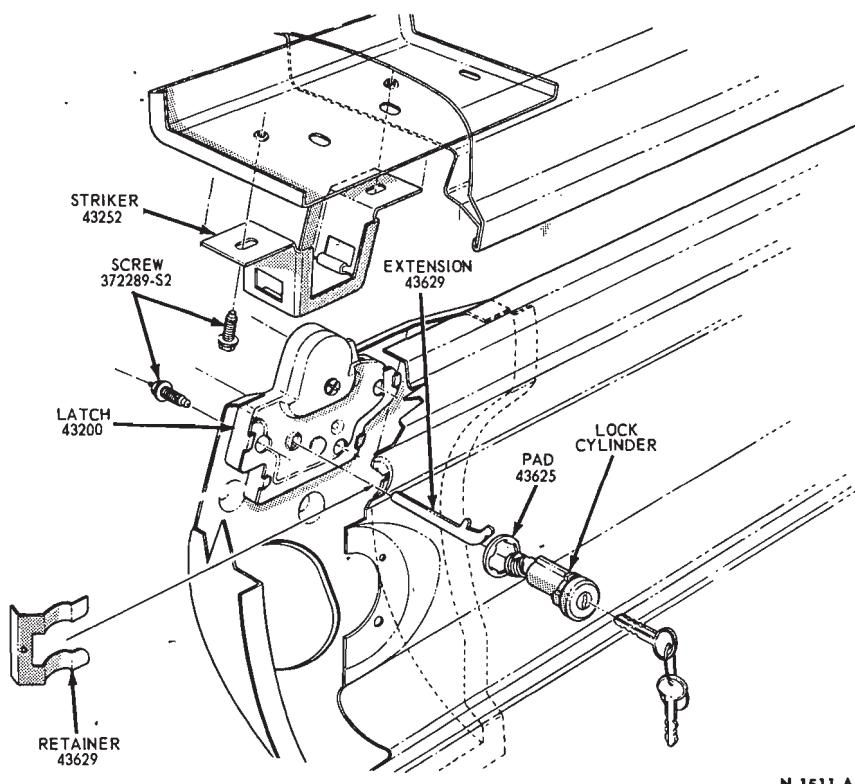

FIG. 14—Luggage Compartment Latch Mechanism—Mustang—Typical Fairlane and Montego
1. Open the luggage compartment door and remove the lock cylinder retainer located behind the latch (Fig. 14).
4. Position the lock cylinder, pad and extension to the back panel or luggage compartment door and latch (Fig. 14) and install the retainer.